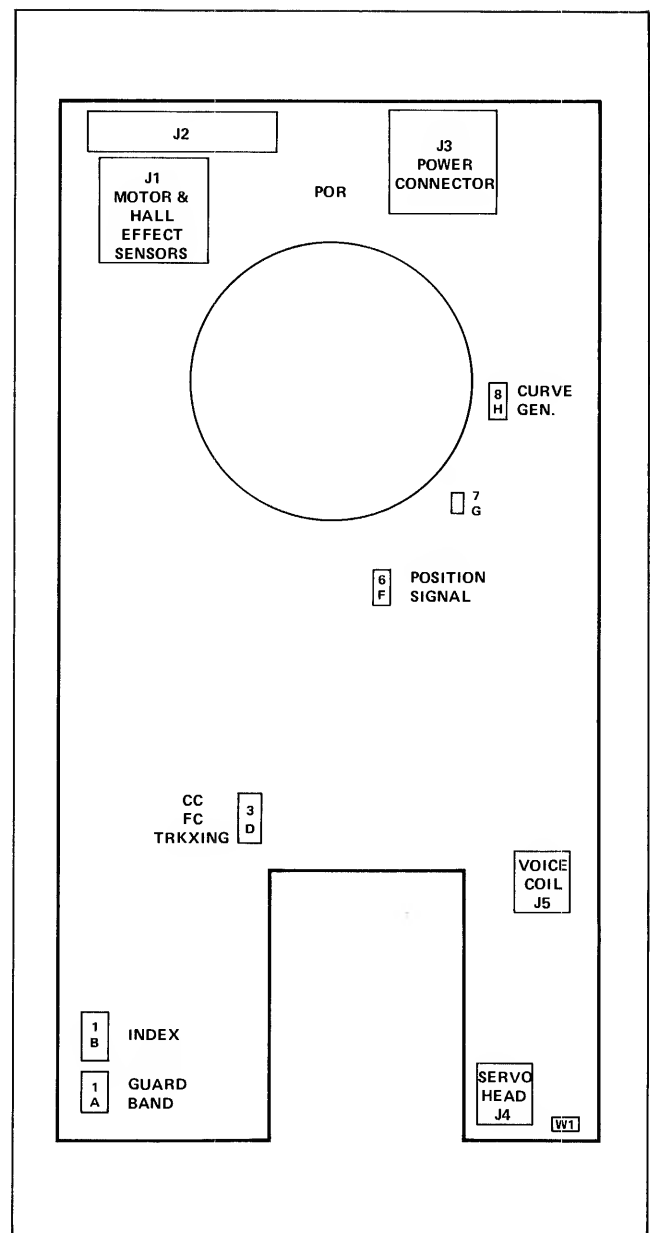
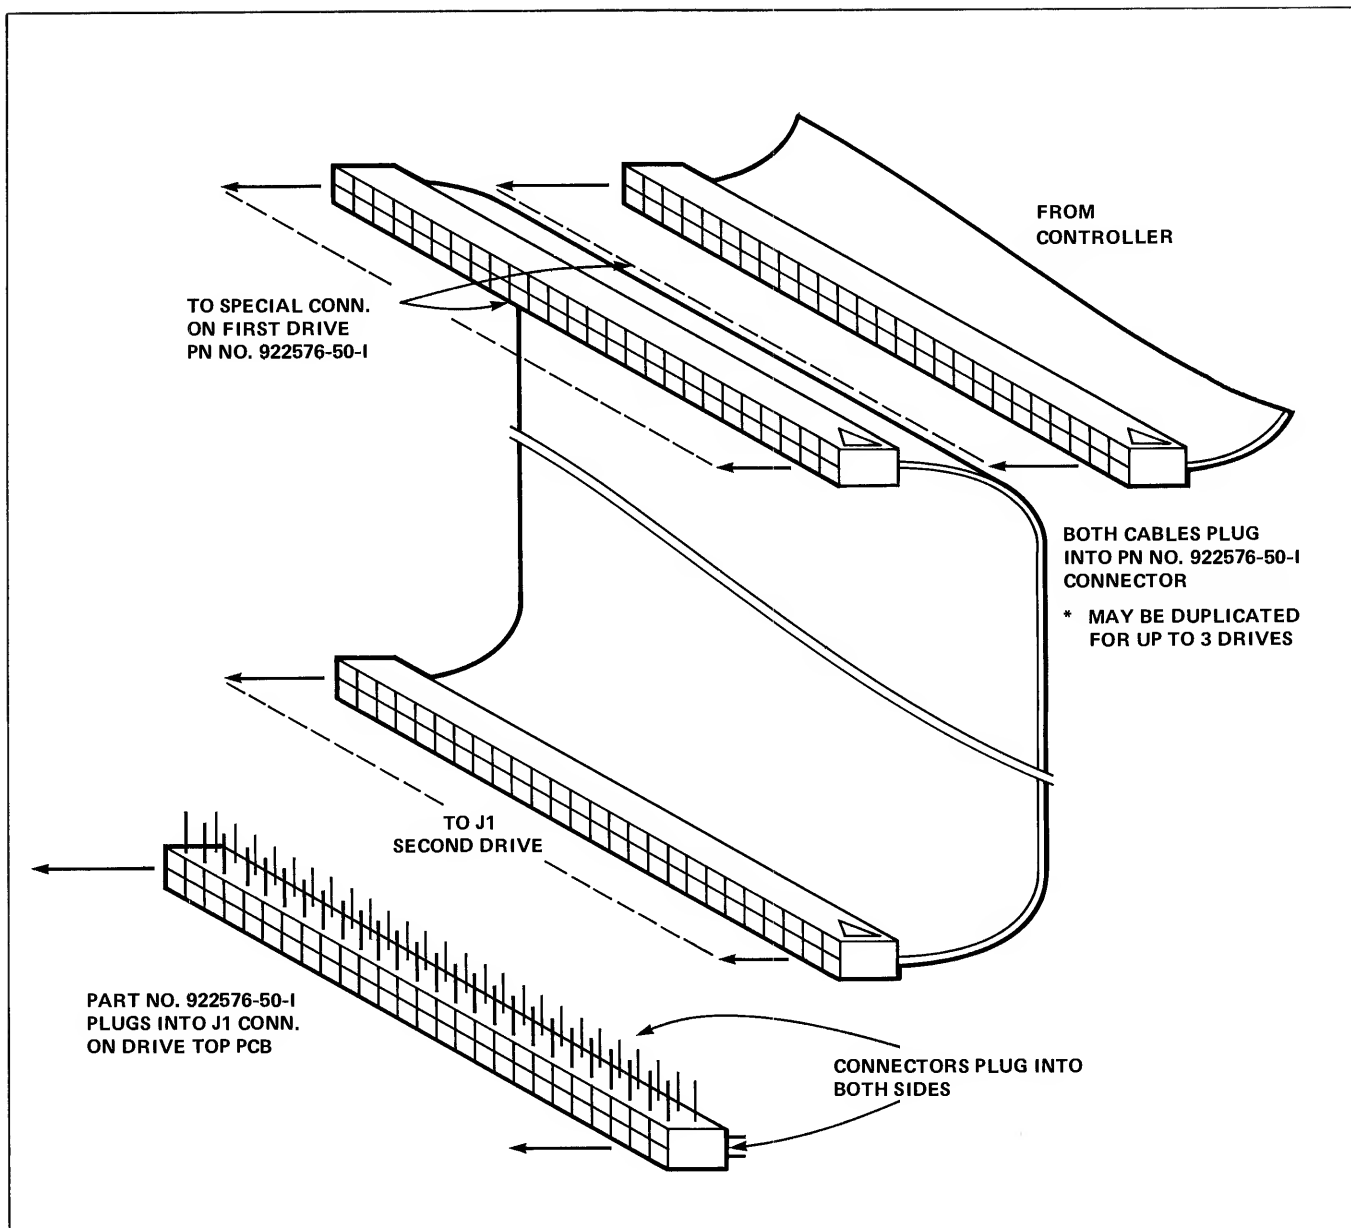

Figure 2-2. Servo and Motor Control PCB
Figure 2-3. Daisy-Chaining an 8-inch Drive with PRIAM Interface
2.7 Cabling. The power cable should be installed to connector J3 on the servo and motor control board (See Figure 2.2). The DC voltages required at the respective pins on J3 are listed in the 3.18.2 section. Interface cables to the host system are described in the sections covering each of the available interface options. Figure 2.3 shows how the interface cables are connected